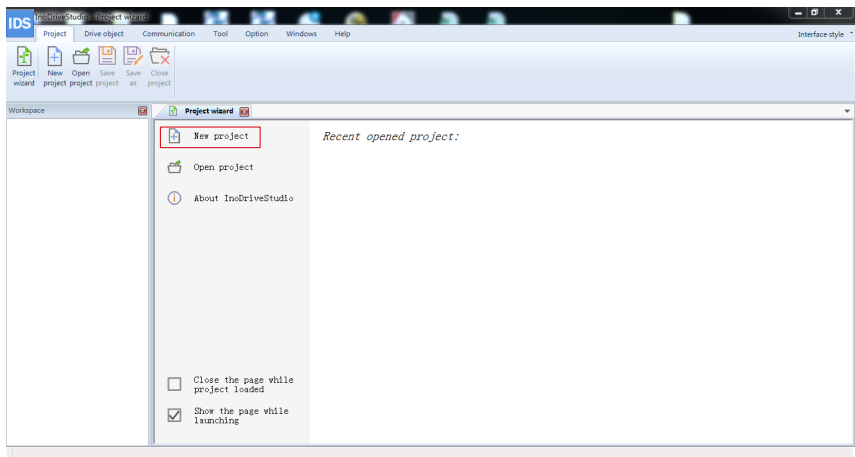
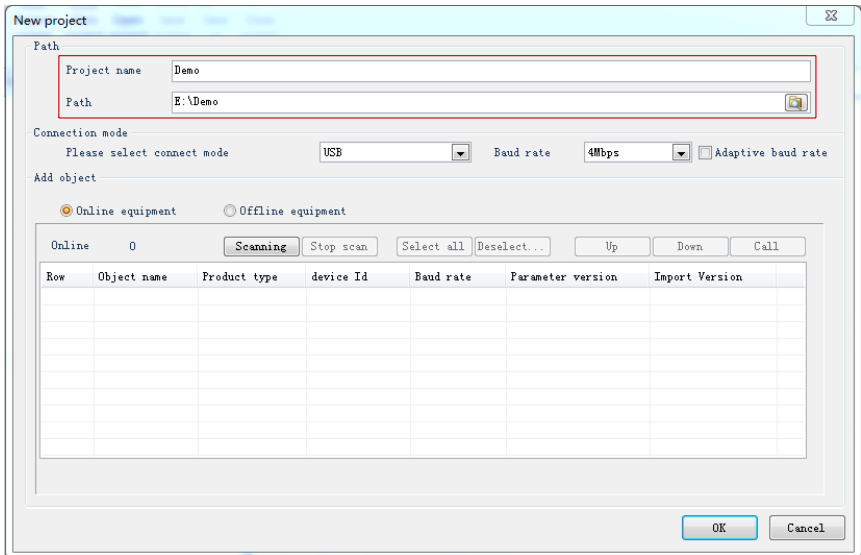

Figure 1-4 New project page
Figure 1-5 New project page
- 1) Choose **Project > New project** in figure 1-4 to create an online project, and a dialog box will appear, as shown in figure 1-5.